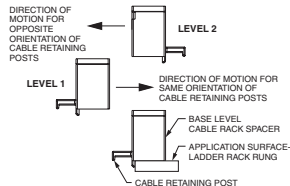

Figure 7
- 5) Repeat steps 2, 3, and 4 until a maximum stack height is achieved. *PANDUIT* recommends a maximum stack height of five for the CRS6-X and CRS1-X. A maximum stack height of four is recommended for the CRS1-125-X and CRS4-125-X. Stackable Cable Rack Spacers are reversible to allow cable retaining posts to be alternated (Figure 7).